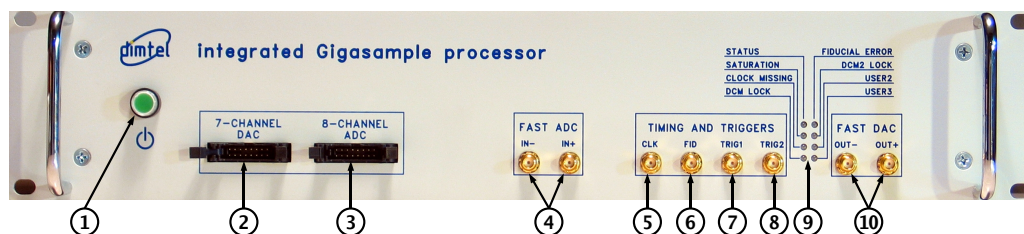

Figure 2: Front panel features
2. Connect **RF** clock at -3 dBm nominal level (Fig. 2, item 5);
3. Connect single-ended high-speed **ADC** input signal to **Ain+** (Fig. 2, item 4). The **FS** swing of this signal should be 190 mV peak-to-peak;
4. Connect a $50\ \Omega$ terminator to **Ain-** (Fig. 2, item 4);
5. Connect high-speed **DAC** output(s) (Fig. 2, item 10) to the appropriate back-end unit;
9. Push the power button (Fig 2, item 1) to turn on the system;
11. Push the power button (Fig 2, item 1) to turn the system off;
- Connect the 16-pin ribbon cable between the 7-channel **DAC** (Fig. 2, item 2) and the 8-channel **ADC** (Fig. 2, item 3);
- Connect 368 MHz clock to the **RF** clock input (Fig. 2, item 5);
- Terminate `Ain-` fast **ADC** input (Fig. 2, item 4);
- Terminate `Aout-` fast **DAC** output (Fig. 2, item 10);
- Make sure fiducial input is not driven (Fig. 2, item 6);